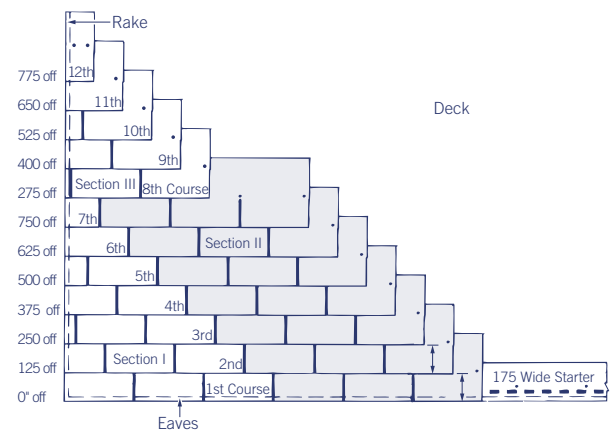

Figure 16-9: Five off, twelve up
1. Start the first course with a full shingle at the lower left corner of the roof. Make the tabs flush with the starter course and be sure to use four fasteners in each shingle (Figure 16-9).
All “Section II” shingles are left uncut. These shingles are to be butted-up against the “Section I” shingles that started courses one through seven. Fasten all shingles in the standard fashion (Figure 16-9).
1. Begin “Section III” in the eighth course with a shingle having 275mm cutoff its left end. Install the 625mm piece above the seventh-course shingles, making it flush with the left edge of the seventh-course shingle and leaving 125mm of the seventh course exposed. Fasten at the two standard locations, plus 30mm in from the left edge (Figure 16-9).
2. The next four courses, up to and including the twelfth course, will start with a shingle 125mm shorter than the first shingle of the course just below it. This means that the first shingle for the ninth, tenth, eleventh and twelfth courses will be 500mm, 375mm, 250mm and 125mm long, respectively. Study the diagram in Figure 16-9 if you’re not sure what to do. Remember to expose each course 125mm to the weather, and fasten at the standard locations and 30mm in from each edge. Complete courses across the roof with full shingles.